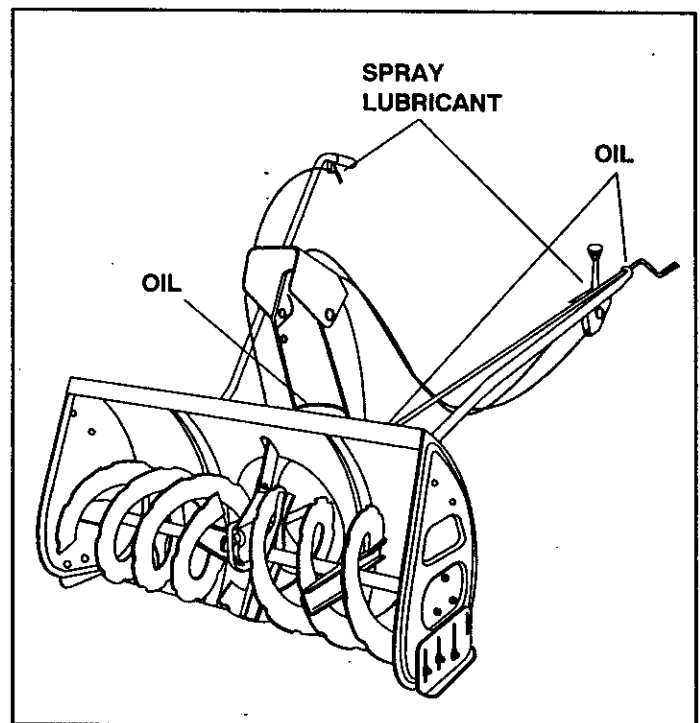

FIGURE 23
- Apply a good grade of spray lubricant to the trigger assembly on the lift handle and the chute tilt control assembly and cables on the crank support tube. See figure 23.
- Apply a small amount of oil between the inside of the discharge chute and the top of the discharge opening on the auger housing as needed to maintain easy rotation of the discharge chute. See figure 23.